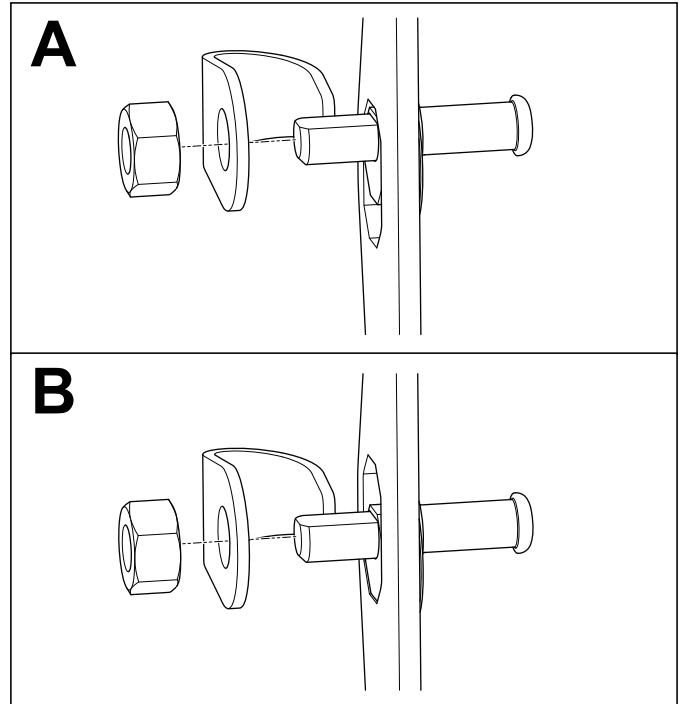

Figure 10
1. Center the latch pin in the latch-pin mount bracket on the rail (Figure 10).